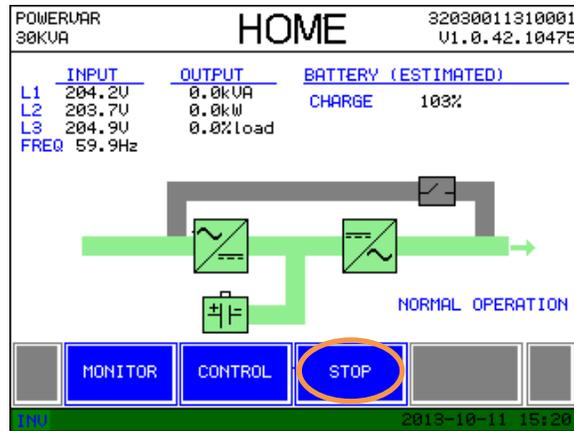

Fig. 4-16
Step 1: Perform a sequential shutdown of your applied load. Once there is no critical load, the UPS may be transferred to its static bypass state by pressing the “stop” button at the bottom of the Home screen (Fig. 4-16).